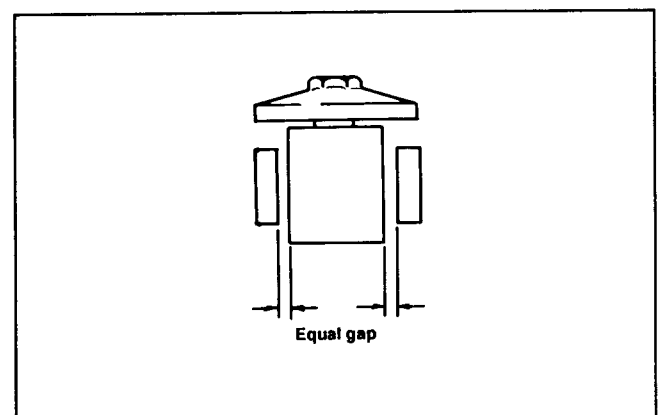

Figure 29
13. Thread adjustment knob and pivot assembly into flat side of bedbar pivot (left-hand thread). Make sure there is an equal gap between each side of pivot assembly housing and frame supports (Fig. 29). Adjust (before installing pivot screws) by sliding bedbar pivot sideways.
8. Install spring over adjusting knob threaded shaft and thread adjustment knob and pivot assembly into flat side of bedbar pivot. Make sure there is an equal gap between each side of pivot assembly housing and frame supports (Fig. 29). Adjust (before installing pivot screws) by sliding bedbar pivot sideways.